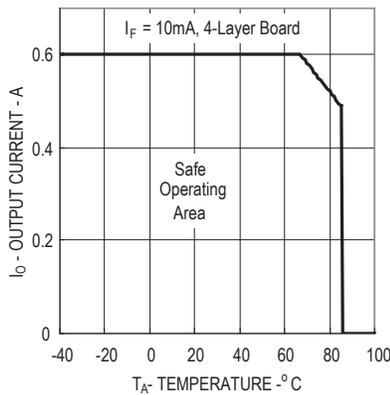

Figure 1. Maximum Output Current Rating vs Ambient Temperature (ASSR-1410-003E)
- For derating, refer to Figure 1, 2, 3 and 4.
Derating curves are shown in Figures 1, 2, 3 and 4, specifying the maximum output current allowable for a given ambient temperature. The maximum allowable output current and power dissipation are related by the expression $R_{ss}=P_o(max)/(I_o(max))^2$ from which R_{ss} can be calculated. Staying within the safe area assures that the steady state MOSFET junction temperature remains less than 125°C.